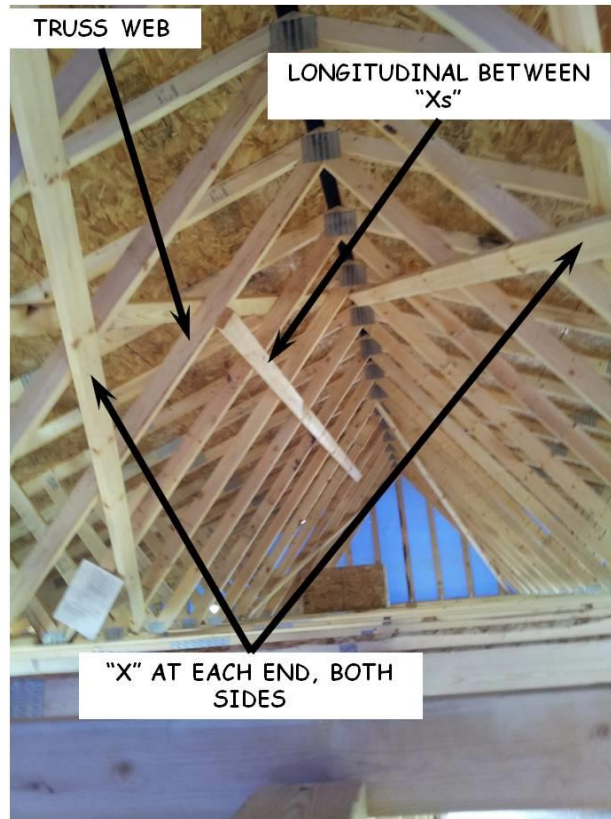

Figure 7-6. Truss Bracing.
1. After roof sheathing has been installed, permanently install X-bracing (diagonal). This bracing prevents lateral movement of the truss system. The bracing is nailed to the truss webs as shown in Figure 7-6.